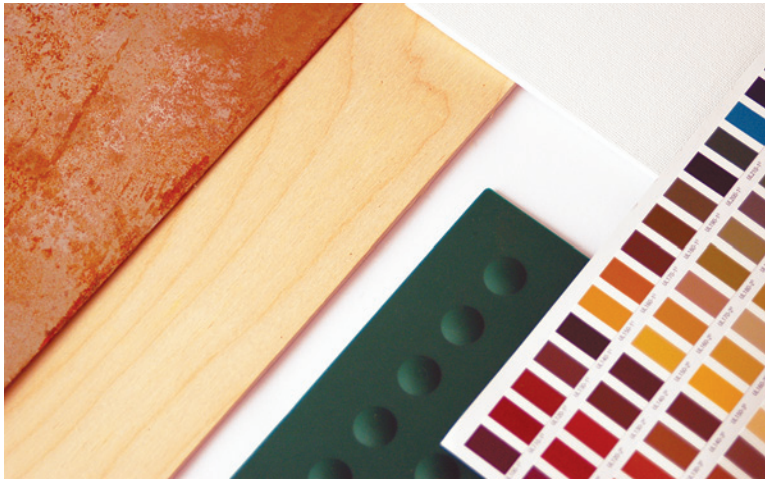

Figure 5.7: Various surface textures (rusty metal, wood, paper, canvas, solid colors)
- **Texture**—This is the photographic appearance of the material. Often, seamlessly repeating images are used to represent a particular material (e.g., a brick pattern), but this could be accomplished by single images or a computational method as well (e.g., for solid colors or a patterned surface). SketchUp’s materials are all seamlessly repeating *tilled* images. (See **Figure 5.7**.)